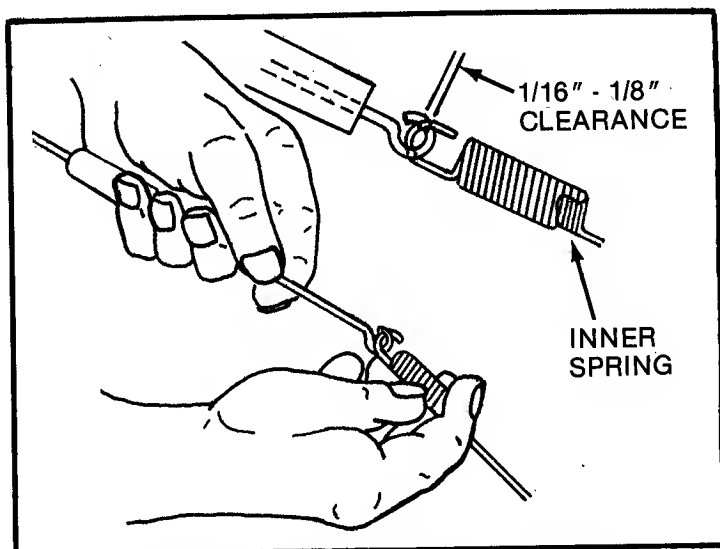

FIG 8 - CLUTCH LINKAGE ADJUSTMENT
Make sure the vinyl cover remains over the spring(s) connecting the clutch pull rod to the clutch idler components (see Figure 8). This not only keeps the spring clean but prevents it from rubbing against and wearing a hole in the grass bag on mowers so equipped.
**ADJUSTMENTS:** If excessive pressure is required to hold the wheel drive clutch lever in the engaged or drive position, the clutch pull rod springs are probably out of adjustment. This is checked with the engine stopped and the clutch handle released. When properly adjusted there should be 1/16" to 1/8" clearance between the inside hook of the spring and inside eye of the push rod as shown in Figure 8. To adjust, unhook and rotate the inner and outer springs in opposite direction, rehook and check clearance. Repeat this procedure until the clearance is correct. If the wheel drive control does not snap back to disengage the drive when the handle is released, check the clip holding the pull rod to the handle bar for binding. Position this clip about 5" from the upper handle and rotate to best position to allow the rod to slide without interference.